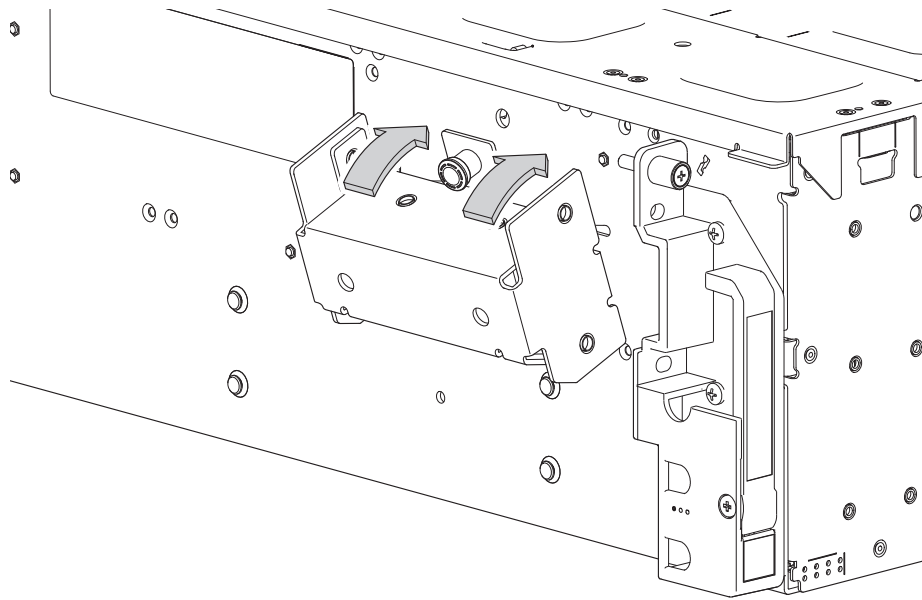

Figure 28 Aligning front left lift handle to the enclosure slots
2. To attach the front left lift handle, align it in below the front left lift handle slots present on the left sidewall of the enclosure as shown in Figure 28 \(page 50\).